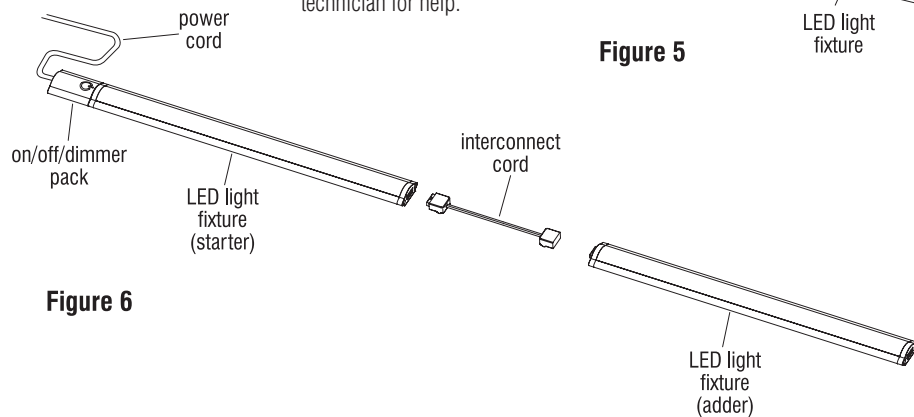

Figure 6
1. Route interconnect cord from one end of a light fixture to the end of an adjacent light fixture (Figure 6). The maximum distance between the interconnected fixtures is approximately 18", determined by the length of the interconnect cord provided, excluding the connectors.